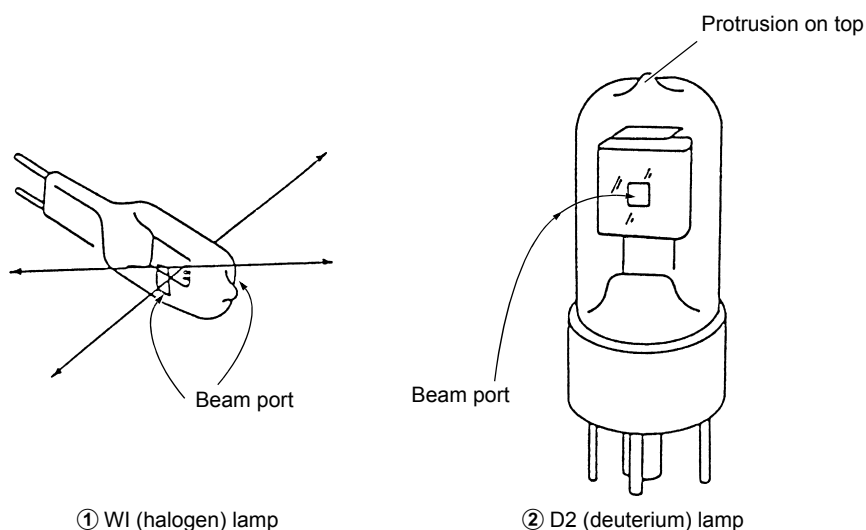

Fig. 3.8 Light source appearances
- When removing and installing the light source compartment cover, avoid hitting the protrusion on the top of the D2 (deuterium) lamp (Fig. 3.8) against the back of the cover. Doing so may cause a vacuum leak in the lamp tube.